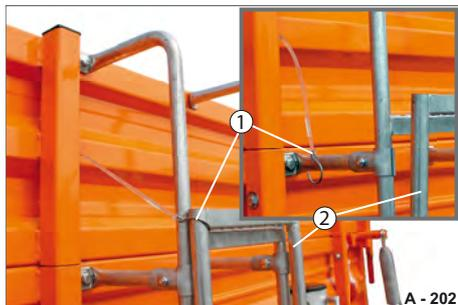

Fig. 219 Unlocking ladder
- ▶ Remove the securing hook (Fig. 219/1) from the foldable part of the ladder (Fig. 219/2).
- ▶ Raise the foldable part (Fig. 219/2) upwards somewhat and carefully fold it down.